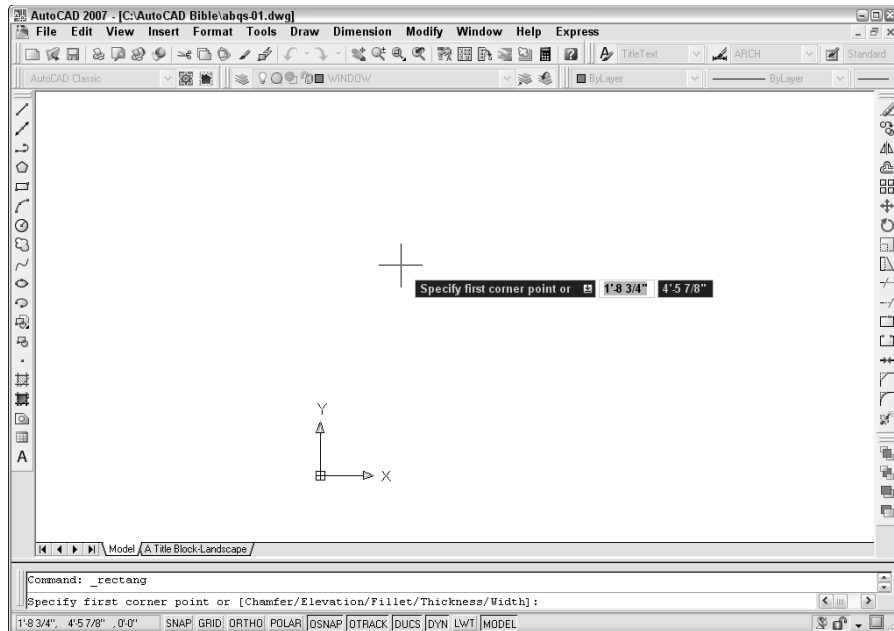

**Figure QS-2:** Starting to draw a rectangle.
4. To free up the drawing area, close any windows or palettes that are open, by clicking their Close (X) button, so that your screen looks like Figure QS-2.
6.  With your left mouse button (also called the *pick button*), choose Rectangle from the Draw toolbar on the left side of your screen. (Using toolbars is only one way to give AutoCAD and AutoCAD LT commands. I explain other ways in Chapter 3. You can find more about drawing lines and rectangles in Chapter 6.) Move your mouse so that the cursor is in the main drawing area. Your screen should look like Figure QS-2. (If you don't see the tooltip bar — also called the Dynamic Input tooltip — near the cursor, then click the DYN button on the Status bar at the bottom of your screen.)
8.  To create a second rectangle inside the first one, choose **Offset** from the **Modify** toolbar (which is at the right of your screen in Figure QS-2), following these prompts: